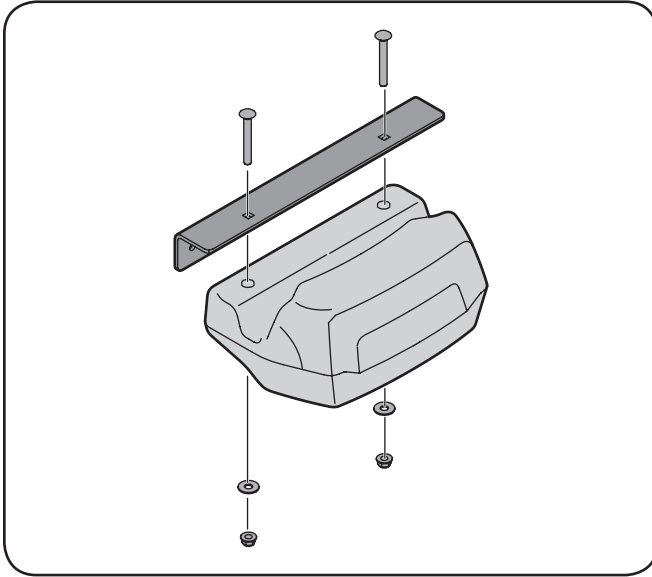

Figure 4-8
Assemble, then attach the weight bar to the front steering assembly using the hardware in pack 683-05063, as shown in Figure 4-8 and Figure 4-10.
1. Install the counter weight mounting bracket to the counter weight using two 710-0572 carriage bolts, two 736-0159 flat washers and two 712-04063 flange lock nuts from hardware pack 683-05063. See Figure 4-8.